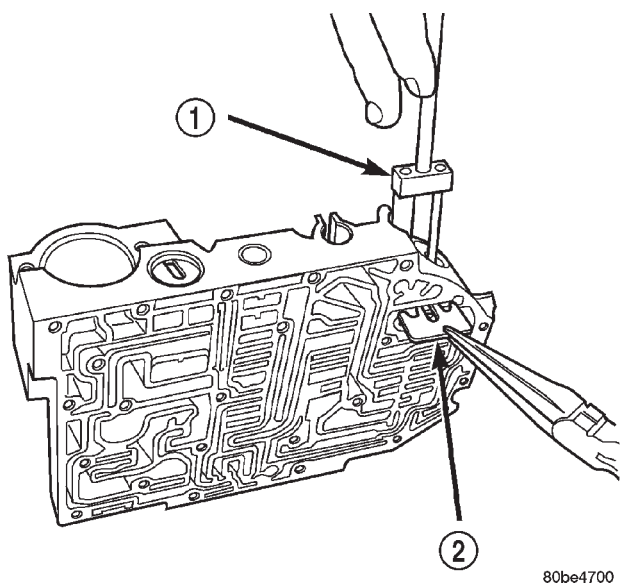

Fig. 139 Install Dual Retainer Plate using Tool 6301
- (3) Install dual retainer plate using Tool 6301 (Fig. 139).